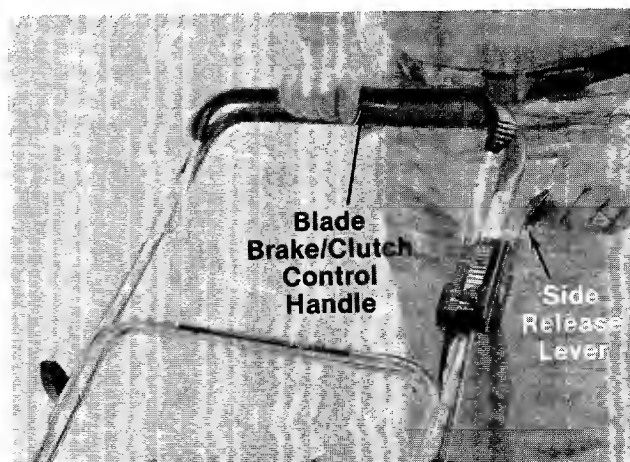

FIGURE 14.
- b. Push release lever (see figure 14), then squeeze blade control handle against upper handle.
To engage the blade, pull the side release lever away from the unit. See figure 14. Pull the blade brake/clutch control handle against the upper handle. Release side lever.
2. To engage the blade, pull the side release lever away from the unit. Pull the blade brake/clutch control handle down against the upper handle. Release the side lever. See figure 14.